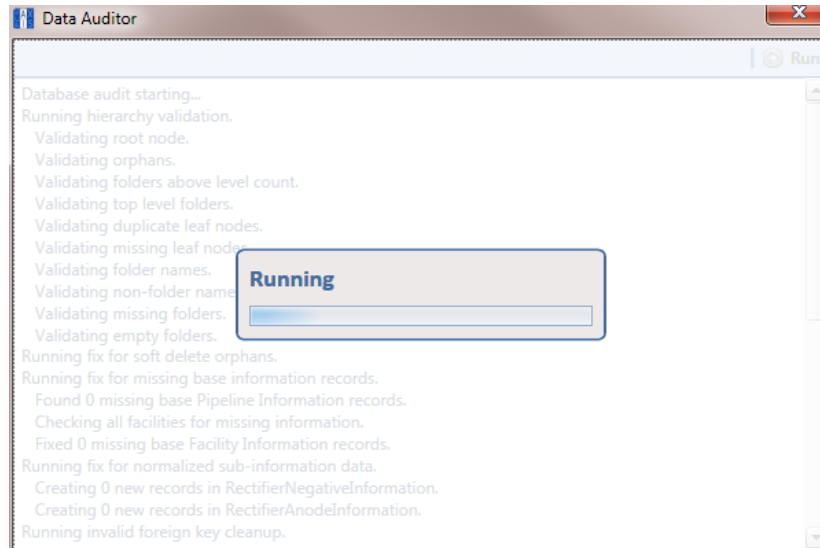

Figure 17-1. Data Auditor
- Click **File > Database Integrity Check** to open the *Data Auditor* window (Figure 17-1). Then click  **Run**.